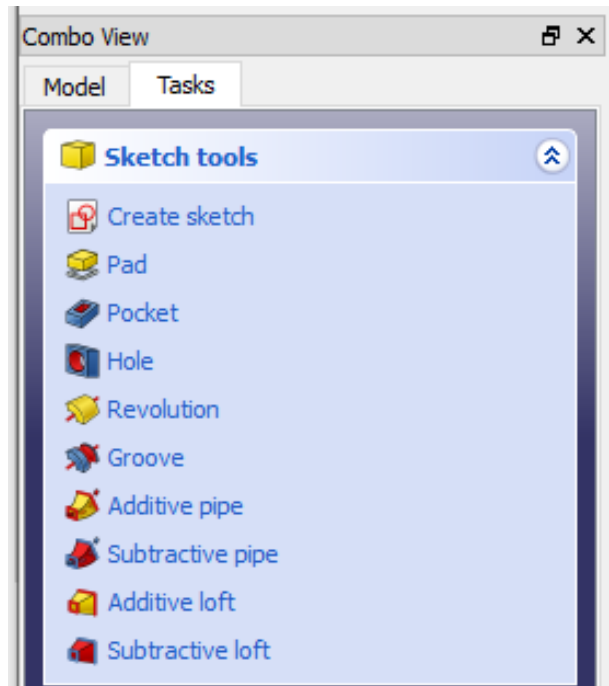

Figure 61 – Combo View “Tasks”
2. Create a new sketch of the part under Task in the Combo view (Figure 61).